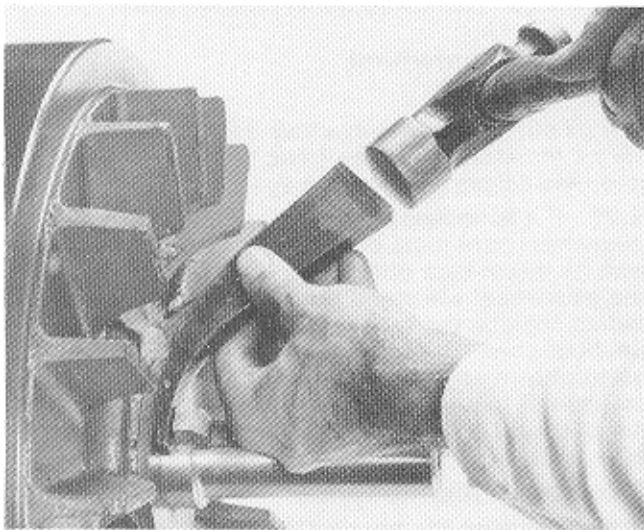
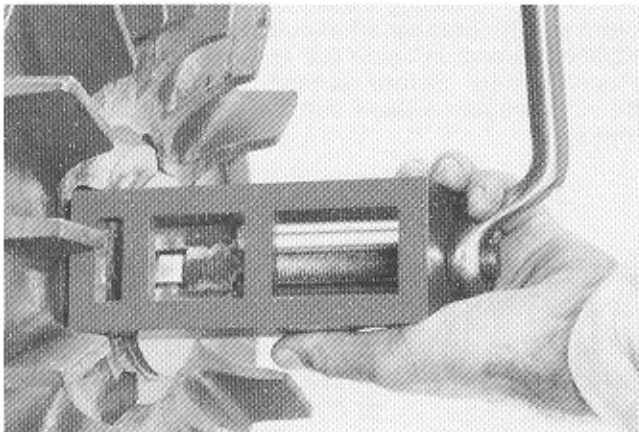

Figure 5.15
Figure 5.16
5.22 Withdraw the flywheel key with a tapered key drift (Figure 5.15) or special extractor (Figure 5.16), both of which are obtainable from Petter Limited or their representatives. It is advisable to support the head of the key by placing a spacer in the key way of the reduced portion of the crankshaft during removal. This stops the key from bending and digging into the crankshaft on removal.
- (1) Remove the cylinder head (Paragraph 5.3), cylinder and connecting rod (paragraph 5.14).
- (2) Remove the flywheel (Paragraph 5.22).
- (3) Remove the gear cover. The gear cover is dowelled to the crankcase.
- (4) Remove the bolt and gearwheel retaining plate from the gear end of the crankshaft. Replace the bolt in the end of the crankshaft to prevent damage to the threads; withdraw the gearwheel using an extractor. (Figure 5.16). A special tool for this purpose can be obtained from Petters Limited or their representatives.